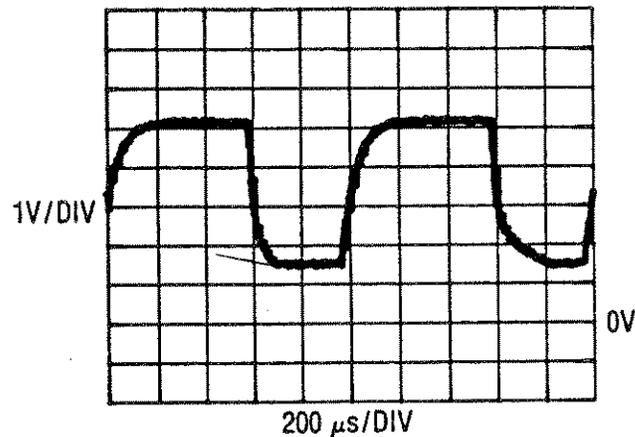

Figure 8-54. +5 Volt Display Supply Waveform
1. Connect an oscilloscope to A9TP3. Compare the waveform in Figure 8-54 with the waveform on the oscilloscope.